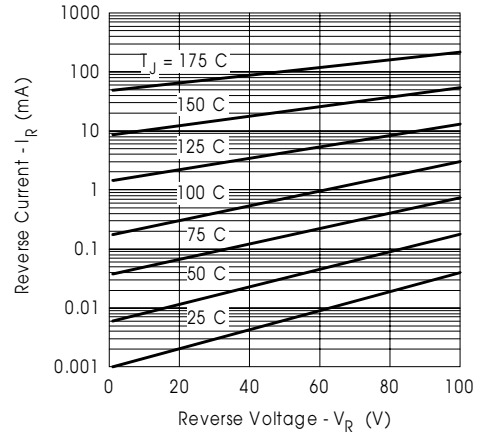

Fig. 2 - Typical Values Of Reverse Current Vs. Reverse Voltage (Per Leg)
| I_{RM} Max. Reverse Leakage Current (Per Leg) * See Fig. 2 (1) | 1.5 | mA | $T_J = 25^\circ\text{C}$ |